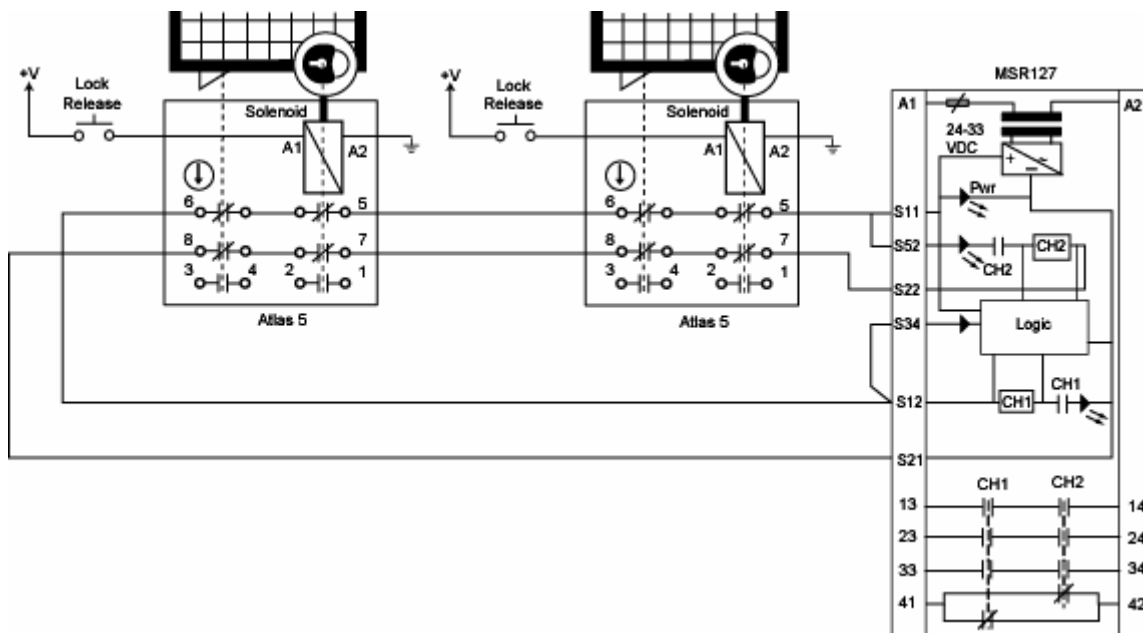

Figure 19. Multiple Atlas 5's
- h. The input circuit arrangement shown in Figures 19 meets the requirements of EN954-1 Category 3.